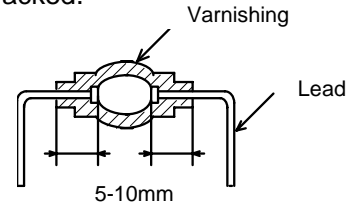

Fig.3 Varnish coating
b) For planed use under such an undesirable condition, consult Hitachi in advance. It should be noted that semiconductor devices, if treated with varnish coating as shown in Fig.3, will increase their resistance to humidity by a factor of 3 to 4 times.